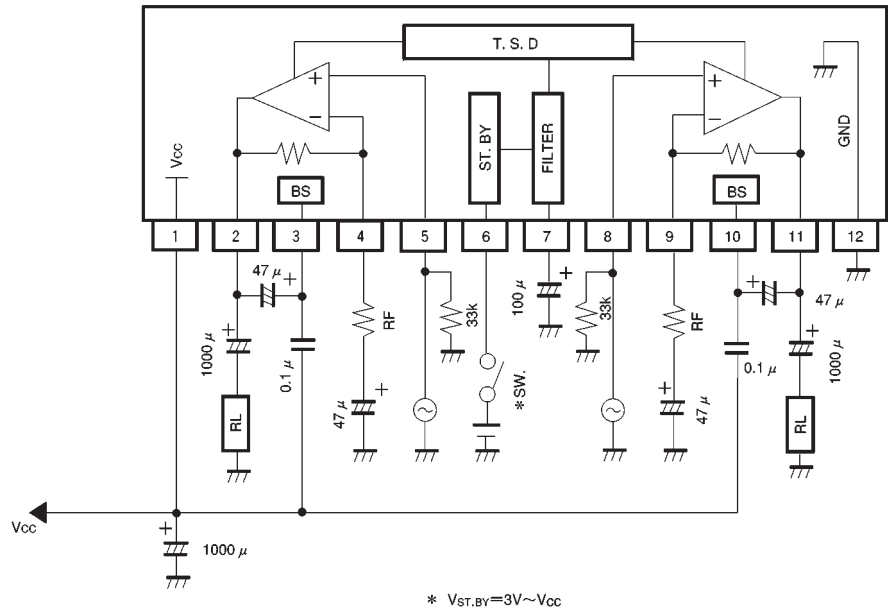

Fig.1
(10) Standard values for the DC voltages on each pin ( $V_{CC} = 12V$ ,  $T_a = 25^\circ C$ , measurement circuit: Fig. 1)